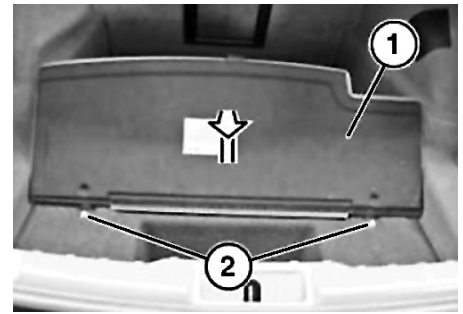

Fig. 5 Luggage compartment floor trim panel removal
7. Open luggage compartment floor trim panel (1), **Fig. 5.**
8. Release plastic nuts (2) and remove luggage compartment floor trim panel (1) in direction of arrow as illustrated in **Fig. 5.**